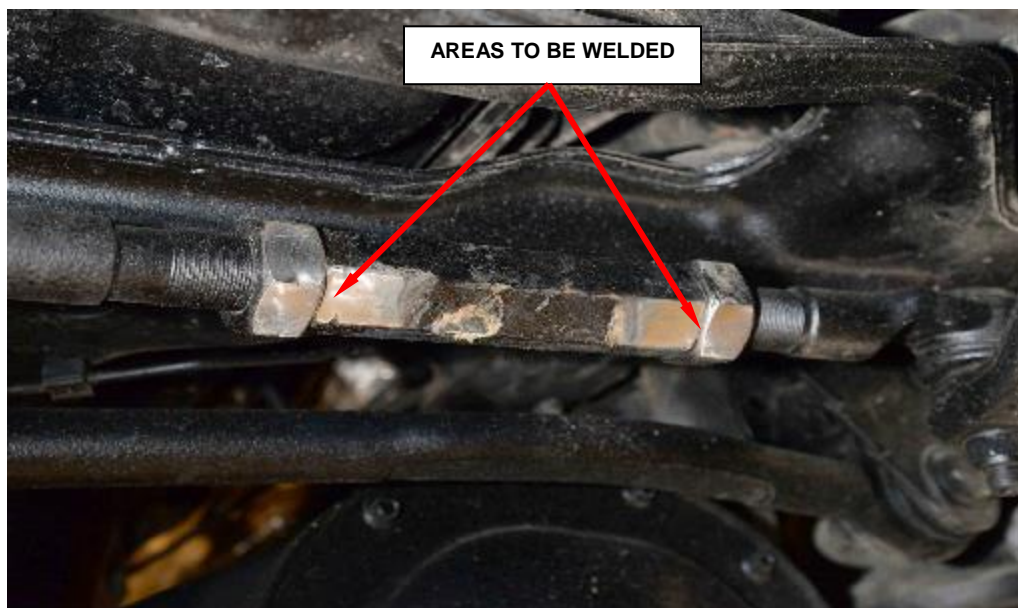

Figure 7 – Clean the Areas to be Welded
5. Clean the areas to be welded. Areas must be free of dirt, oil, water, salt, undercoating, moisture or any other contaminant that would affect the weld, then wire brush the area (Figure 7).